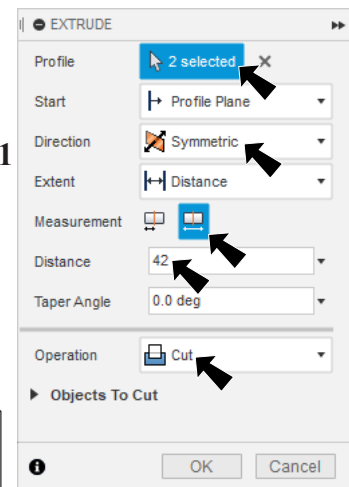

Fig. 20
Step 9. In the Extrude panel set, **Fig. 20**